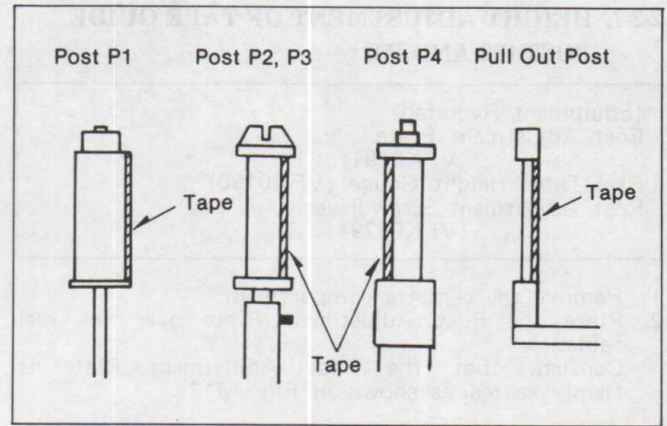

Fig. M19
- Play back a normal cassette tape and make sure that the edges of the tape are not curling at the bottom or top end of the posts P1, P2, P3, P4 and pull out post as shown in Fig. M19.